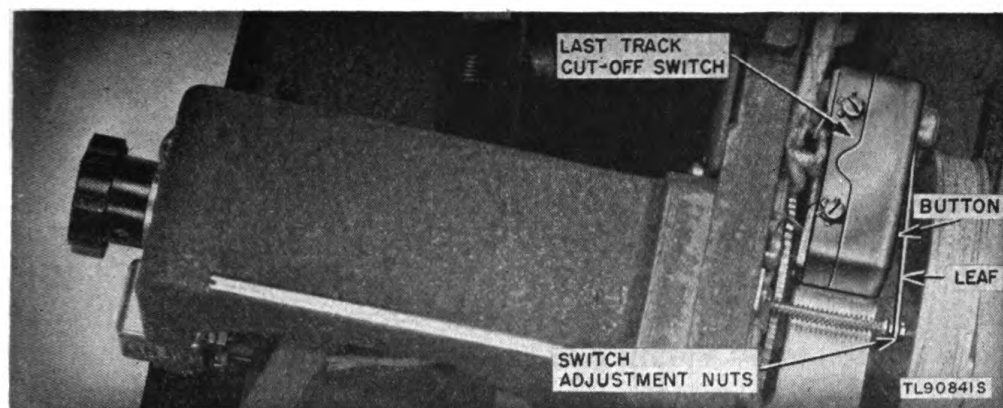

Figure 48. Last track cut-off switch (SW7) adjustments.
## 98. Adjustment of Last Track Cut-Off Switch (SW7) (fig. 48)
*b. ADJUSTMENT.* (1) Remove power plug from 110-volt receptacle.
(2) Remove the back cover of carrying case.
(3) Adjust the two adjustment nuts at the end of the rod (fig. 48) so that the leaf on the microswitch presses against the small button on the microswitch when the carriage is moved to track No. 115. A faint click should be heard when this small button is pressed in by the leaf.
(4) Check the adjustment by rotating the index knob up to